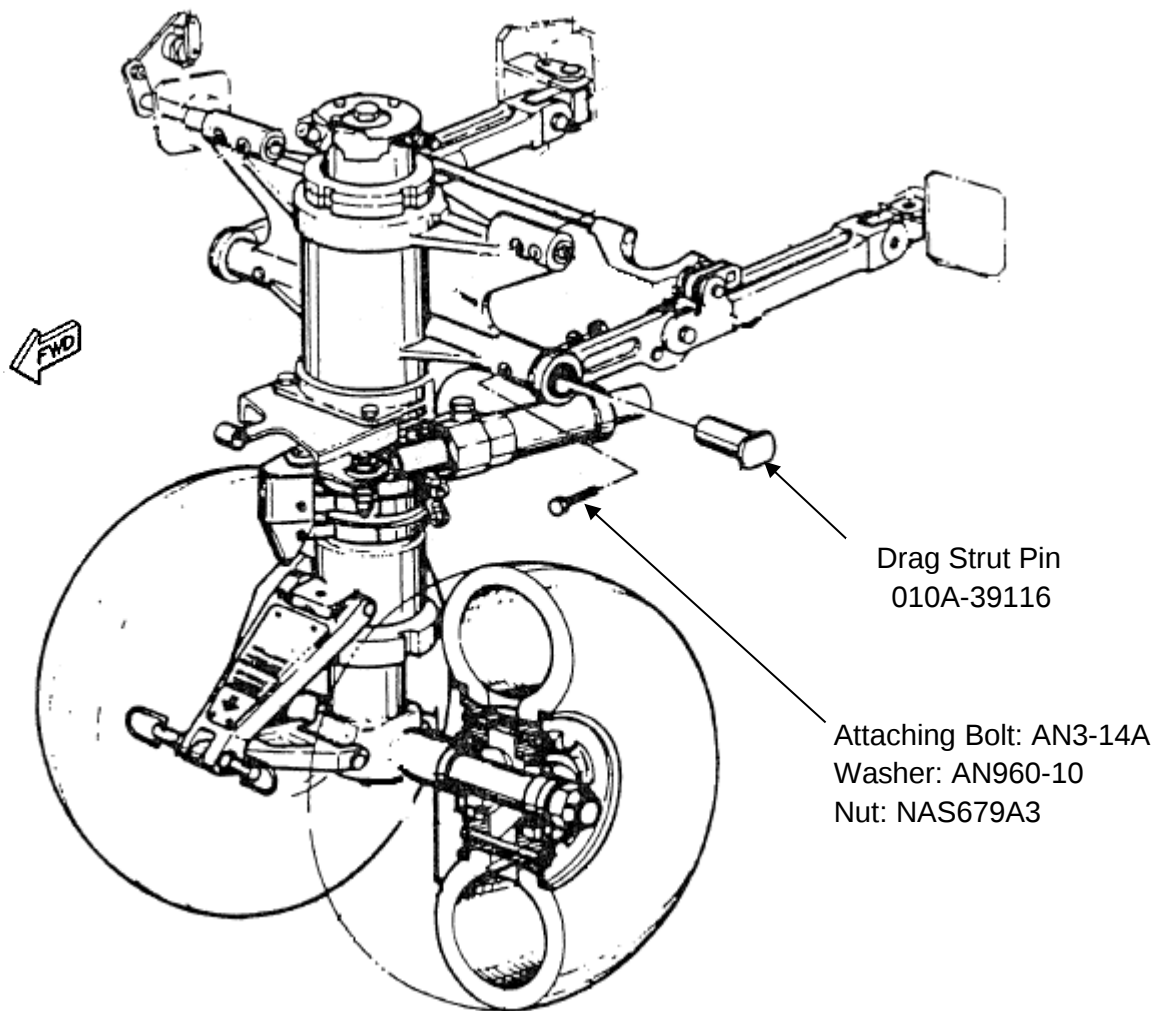

Figure 11: Drag Strut Pins and Attaching Bolts
- (1) Clean LH and RH Drag Strut Pins and visually inspect for wear, crack, deformation or corrosion. (Figure 11)